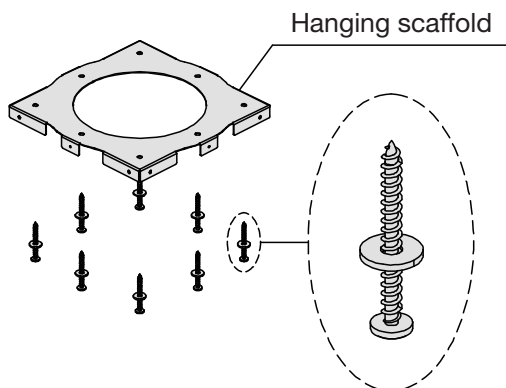

Figure 1
- Fix the hanging scaffold at desired position, and check firmness of installation (see Figure 1).